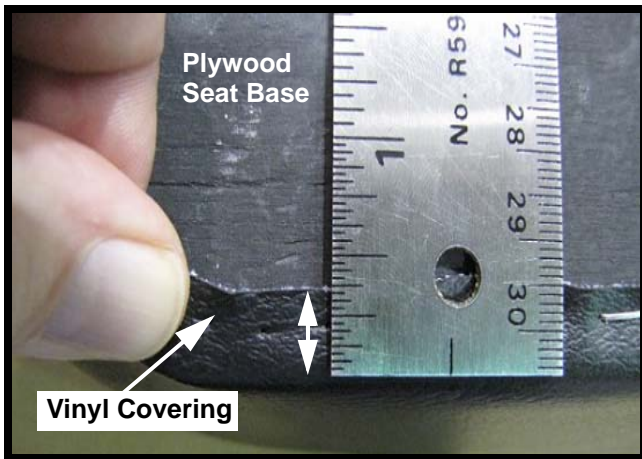

FIGURE 12
17. Starting at one end, pull the vinyl covering so that a minimum of 3/8" (0.3750") is overlapping the edge of the plywood seat base. See Figure 12.